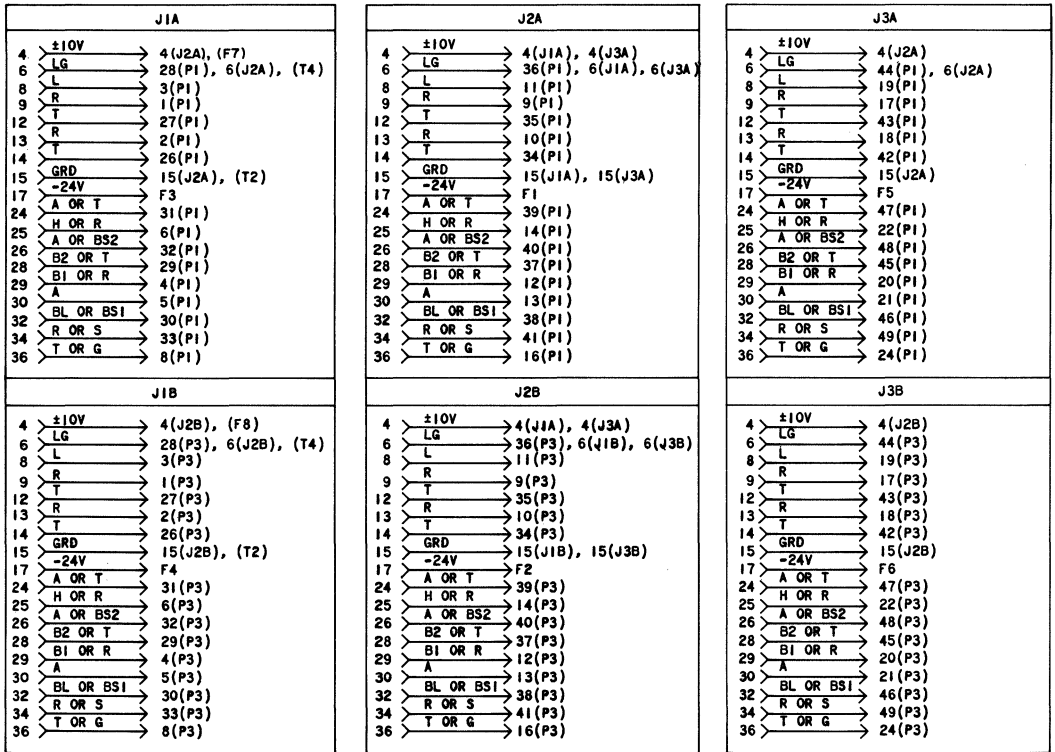

Fig. 6—Connections For Jacks J1 to J3
**2.004** On Page 9, add new Fig. 6.